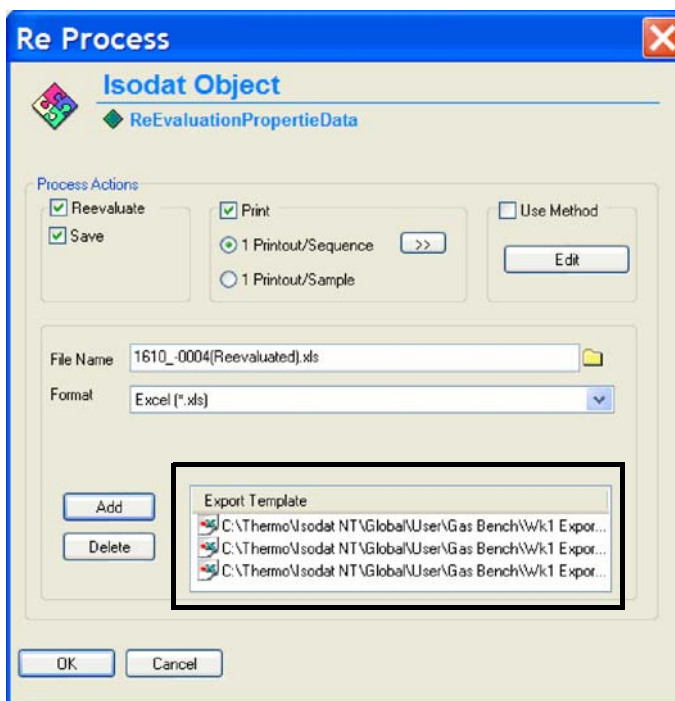

Figure 3-76. Selected export templates
5. The selected user-defined export templates will appear in the Re-Process window. See Figure 3-76.